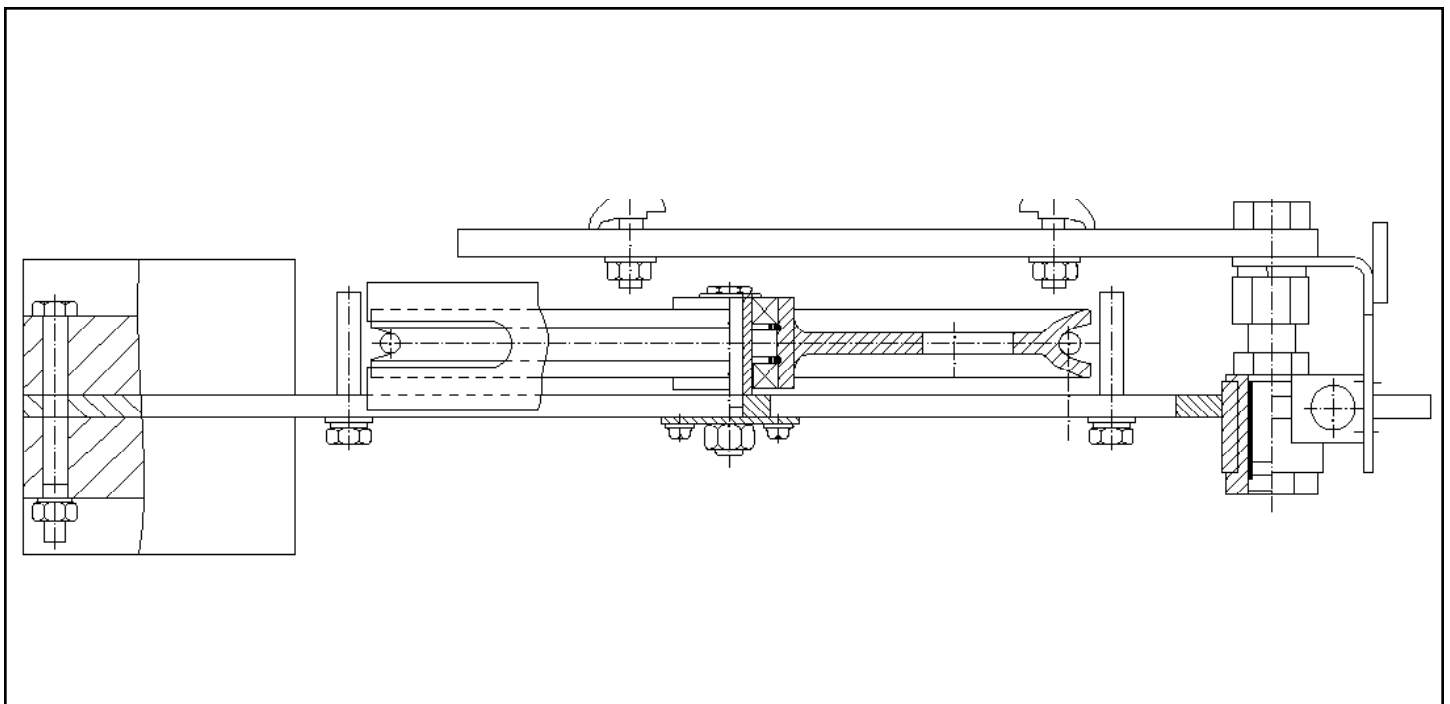

Figure 1
- After the device is unpacked, it has to be configured for the specific application. Typically, the device is packaged as a right hand unit with the guide bracket behind the sheave for transportation (see *figure 1*) and the threaded sleeve arrangement is set for the 23-48mm (0.90-1.89") range.